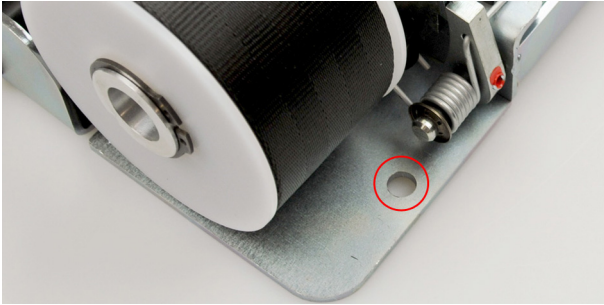

Figure 7: Front Right-Hand Anchorage Point
- ⇒ Mark the positions of the anchorage holes (see Figure 7).